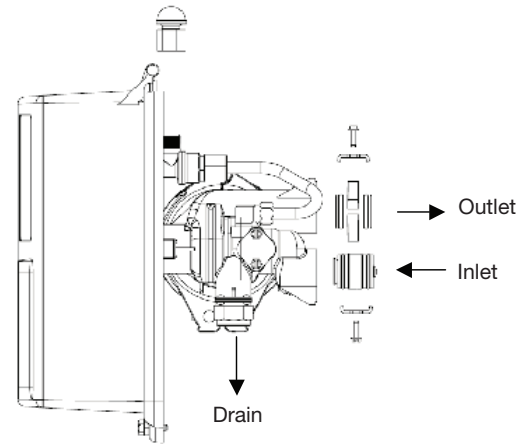

Figure 4
- Connections are illustrated below in Figure 4 (shown without bypass and yoke) and Figure 5 (bypass piping detail).